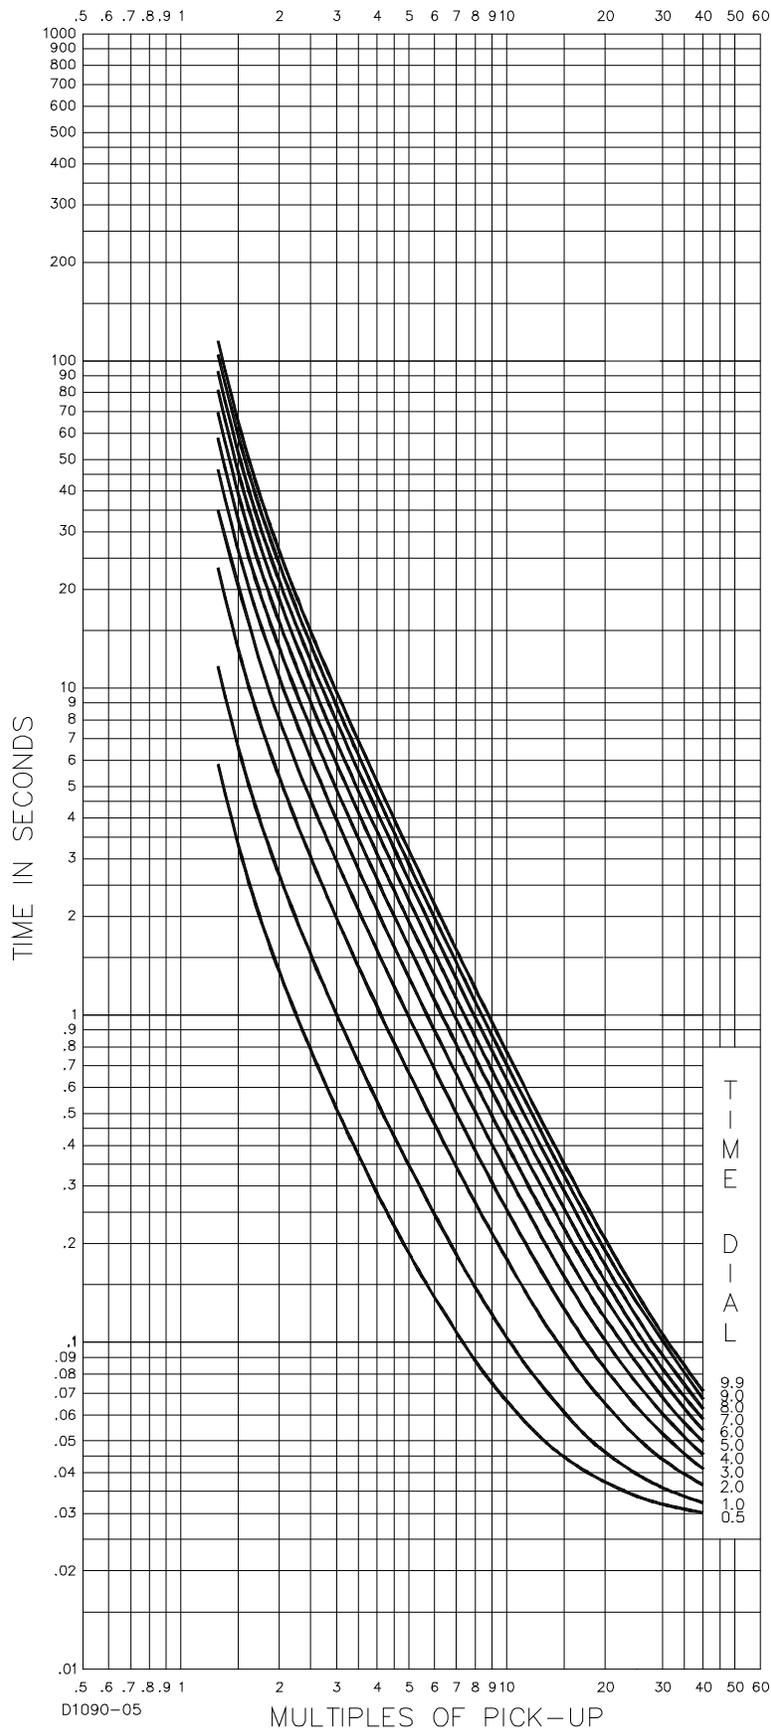

Figure 7-9. BS142-C Curve (BS142 Extremely Inverse)
- BS142-C (BS142 Extremely Inverse): Figure 7-9